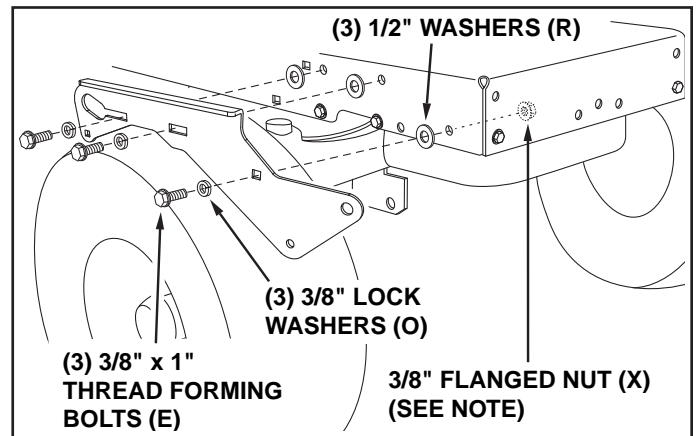

FIGURE 23 RIGHT SIDE VIEW
STEP 24: (SEE FIGURE 23)
- Fasten the R.H. Side Plate (bend facing out) to the three holes shown in the tractor frame. Use three 3/8" x 1" thread forming bolts (E), 3/8" lock washers (O) and 1/2" washers (R). Use the 1/2" washers as shims between the Side Plate and the tractor frame. Tighten all bolts and repeat for the L.H. side.